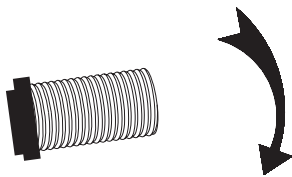

fig. 1
- 1 Unfold the hot blow air hose and the hot blower hose coupling from the plastic (Figure 1). The hose can be stretched and the clutch is two-part.